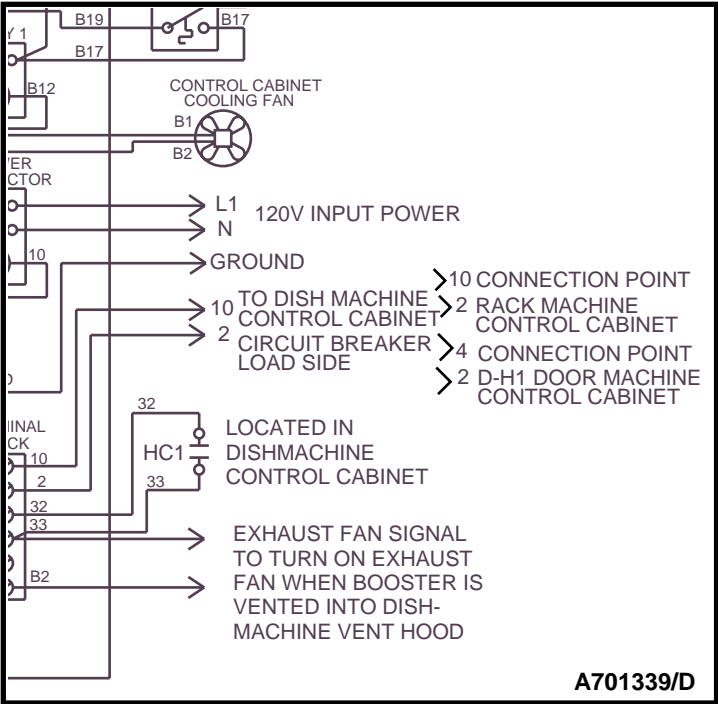

Figure 25
3. All electrical connections are made in the CSS-130 control cabinet which is located on the right side front of the unit (See Fig. 25).
- 6. The schematic detail, Fig. 25 shows the incoming power connected at the power contactor. The contactor is located inside the CSS-130 control cabinet.